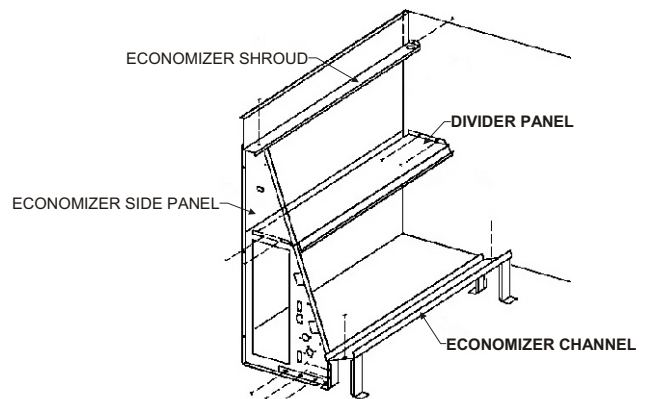

Figure 6
- 12- Position economizer side panel in filter section. Secure economizer side panel to the economizer channel bracket and the flange on the unit base. **See Figure 6.**
- 14- Install the economizer shroud, economizer divider panel, and economizer channel. Secure with screws. **See Figure 6.**
- 15- Open filter access door and slide in balancing damper in economizer rails. The damper blades should be at the bottom. The flange on the middle divider of the balancing damper should slide under the middle divider in the return air opening of the rooftop unit. **See Figure 6.**